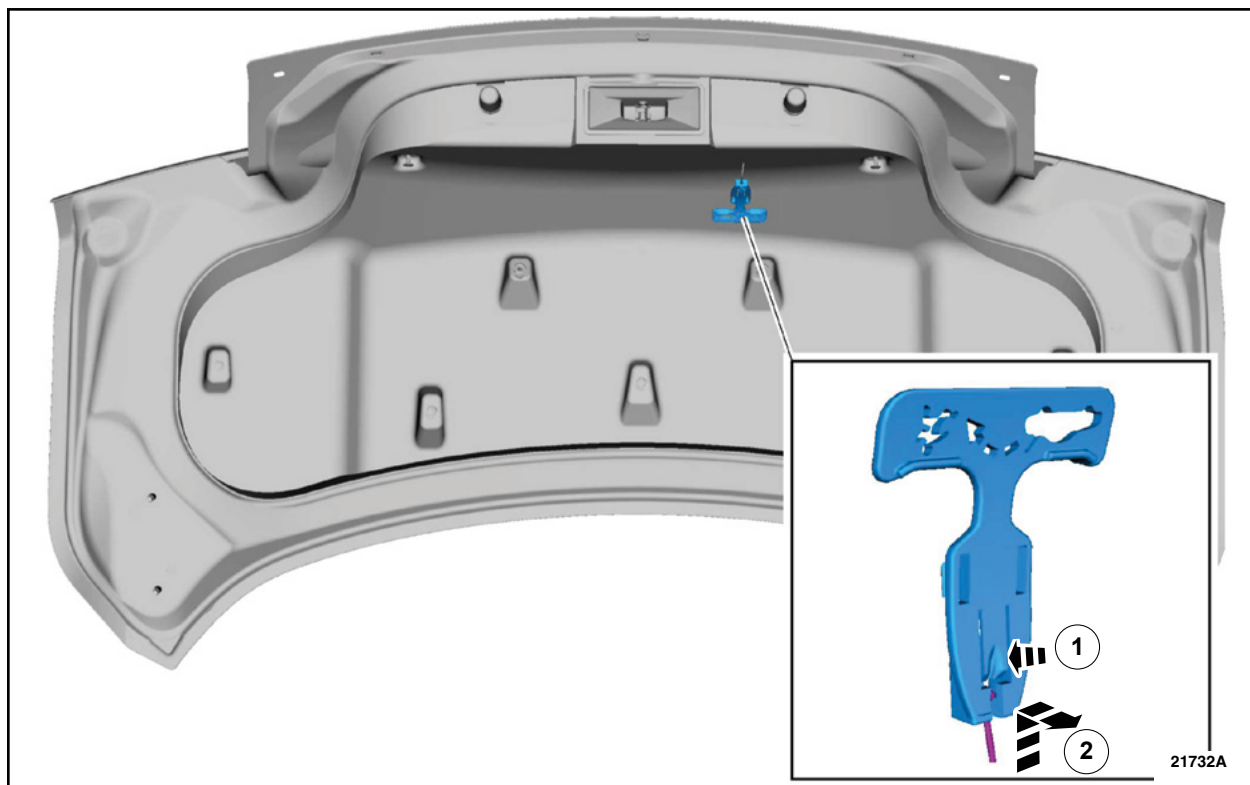

FIGURE 2
5. Remove the luggage compartment lid emergency release handle. See Figure 2.